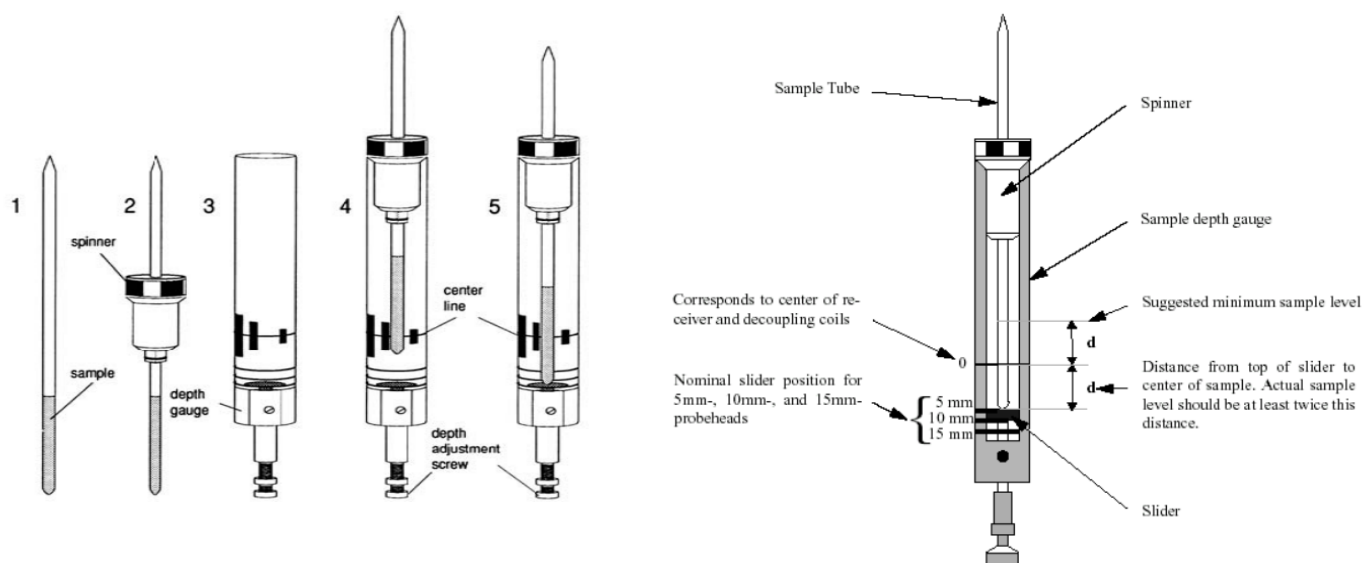

Fig. 1: Tube position and leveling of sample depth
6. Adjust the sample depth in a sample depth gauge. The top of the slider (white part) is fixed at 2 cm from 0 cm on top. Do not change the slider level from this fixed level. The base of the sample tube should be positioned as shown in **5, Fig. 1**.